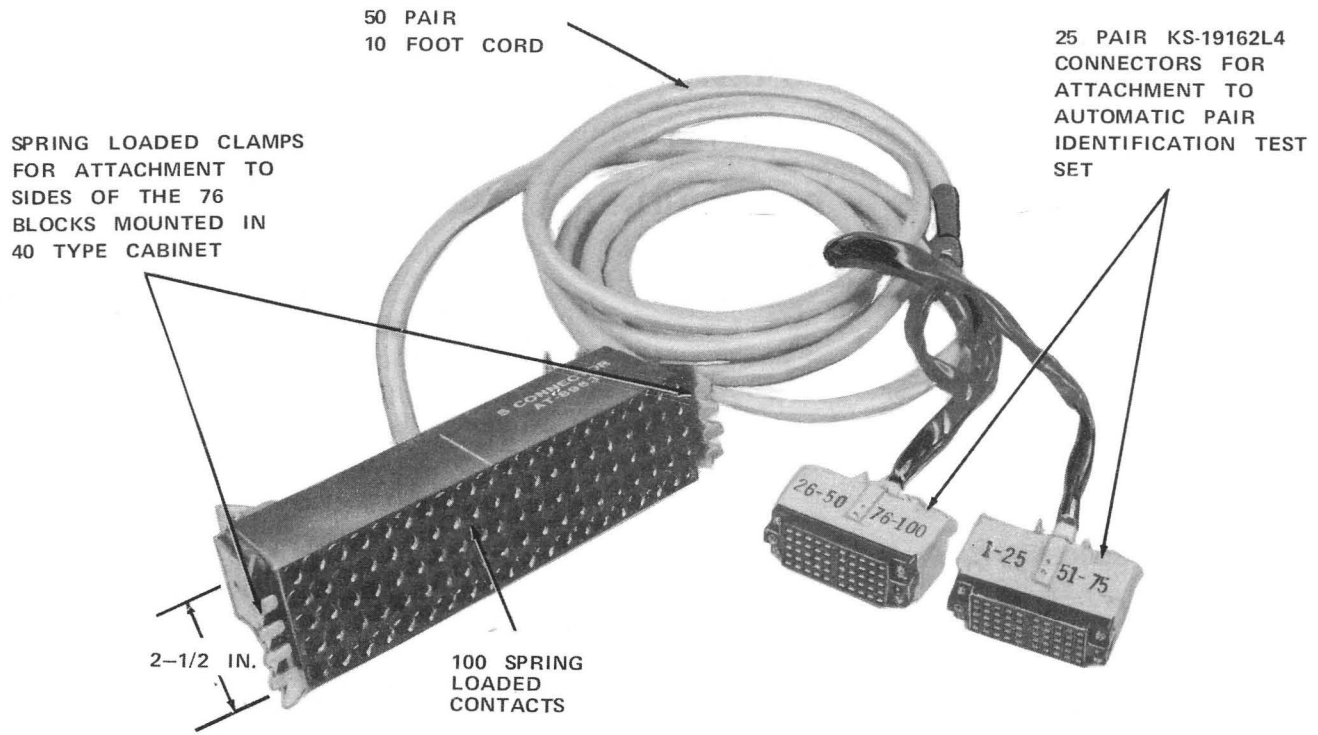

Fig. 1—S Test Connector (AT-8953)
2.01 The S test connector (AT-8953) consists of a two-piece molded plastic body which contains 100 spring loaded contacts that are internally connected to a 10-foot 50-pair test cord (Fig. 1). The 10